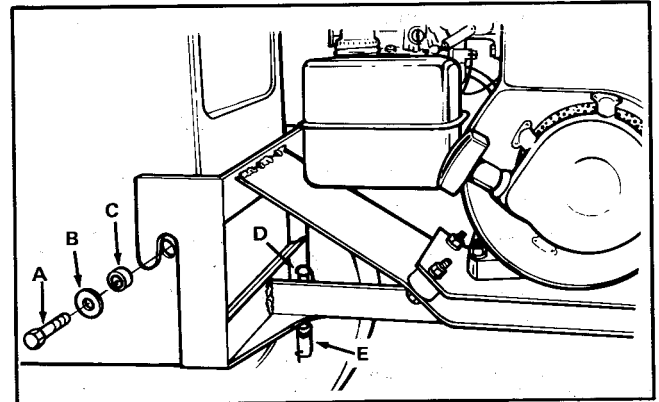

Figure 3. Attaching Engine Assembly
1. Remove the capscrow, washer, lockwasher, and nut already on the rear support of the tractor (see figure 3). The lockwasher and nut will be used again.
2. Replace the capscrow and washer just removed with the longer 1-1/4 inch capscrow and larger washer (items A and B, figure 3) provided. Do this by placing the washer and one of the spacers (item C) provided on the capscrow and inserting capscrow back into support. Install the original lockwasher and nut on capscrow from inside the support and tighten in place.